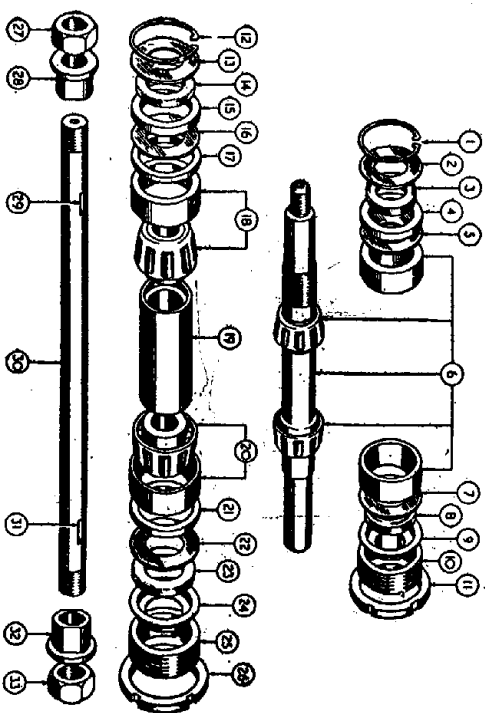

FIG. 37.—EXPLODED 1950-54 FRONT AND REAR HUB BEARINGS.
ADJUSTABLE taper roller bearings are used for both wheels, the arrangement of which is shown in Fig. 37. The rollers run on bearing sleeves at each end of the hub; the sleeves are a close fit in the hub. The bearing sleeve at the adjusting end can be moved, to either increase or decrease the amount of end play, by altering the position of the adjusting ring. If this type of bearing is pre-loaded, or tightly adjusted, a crushing action on the rollers will take place, causing overheating, with serious damage. A little end play in the bearing is therefore of vital importance.
First refer to Fig. 37 for assembly arrangement, which will also indicate the order in which parts should be removed. Remove the front wheel and the cover plate, together with the brake shoes. Slacken the lock-ring (11). Completely unscrew the adjusting ring (10) with the lock-ring attached. The bearing sleeves are a close fit in the hub, pressure must be applied on the threaded end of the spindle to force out, from adjusting side of the hub, the oil-seal cup (9), oil seal (8), metal washer (7), together with the spindle bearings and sleeve. With left side of hub uppermost, press down on the washer behind the circlip to remove the circlip. Turn the wheel over, apply pressure on the inside end of the bearing sleeve (6), to force out the oil-seal washer (2), oil seal (3), spacer collar (4) and plan washer (5). To reassemble, reverse dismantling procedure, remembering to leave space between the bearing sleeve and slot for the circlip. When the circlip is fitted, press the bearing sleeve up against the circlip. Adjust the bearing as previously described.
First refer to Fig. 37 for assembly arrangement, which will indicate also the order in which parts are removed. Remove the rear wheel, cover-plate with shoes, spindle with cams and all parts external to the hub. From the brake-drum end of the hub, slacken the lock-ring (26), and unscrew the adjusting ring (25). Now follow the procedure described for dismantling the front-wheel bearing.